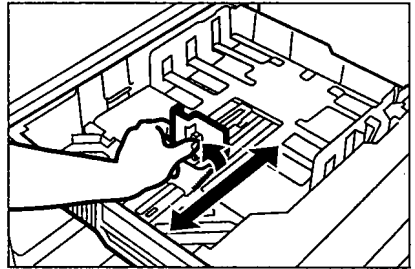

Figure 1-30
- 1) Hold the lever as shown in Figure 1-30, and slide the length guide until it is positioned over the appropriate paper size index.